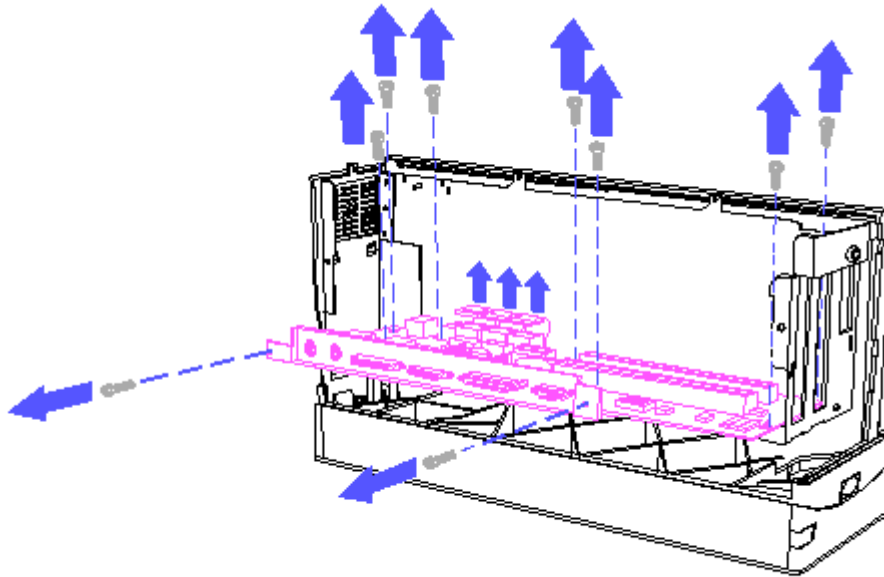

Figure 5-15. Removing the I/O Board
7. Carefully disconnect the diskette drive cable, fixed disk drive cable, and power cable (Figure 5-15).
8. Disconnect the fan assembly cable (Figure 5-15).
9. Using a Torx T-10 screwdriver, remove the screw securing the internal keyboard connector to the display pan (Figure 5-15).
10. Using a Torx T-15 screwdriver, remove seven screws securing the I/O board (Figure 5-15).